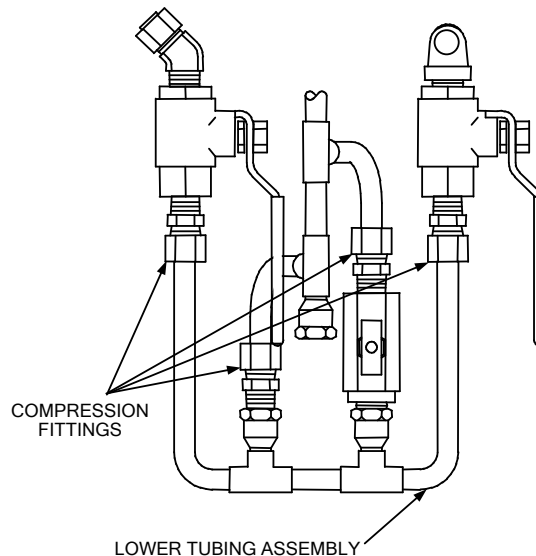

Figure 6.4
9. Using a 5/8" and 9/16" wrench, loosen the 4 compression fittings holding the lower tubing assembly in place, (See Fig. 6.4).